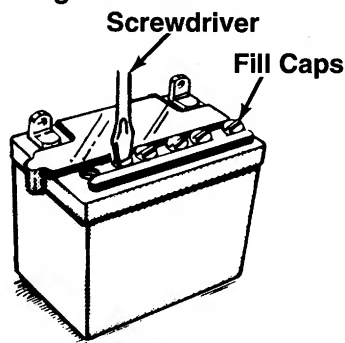

FIGURE 1.
3. Remove the six fill caps from the top of the battery with a screwdriver. Be careful not to damage the fill caps. See figure 1.